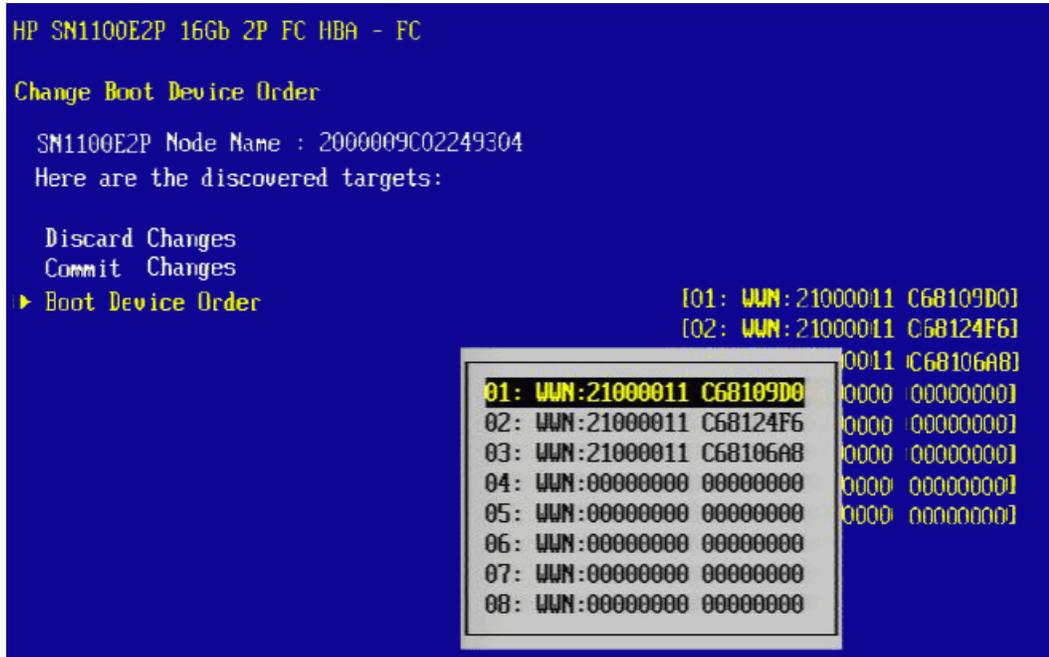

Figure 6-15 Boot Device Order Menu
- Press **<Enter>**. The Boot Device Order menu screen appears (Figure 6-15 on page 59).